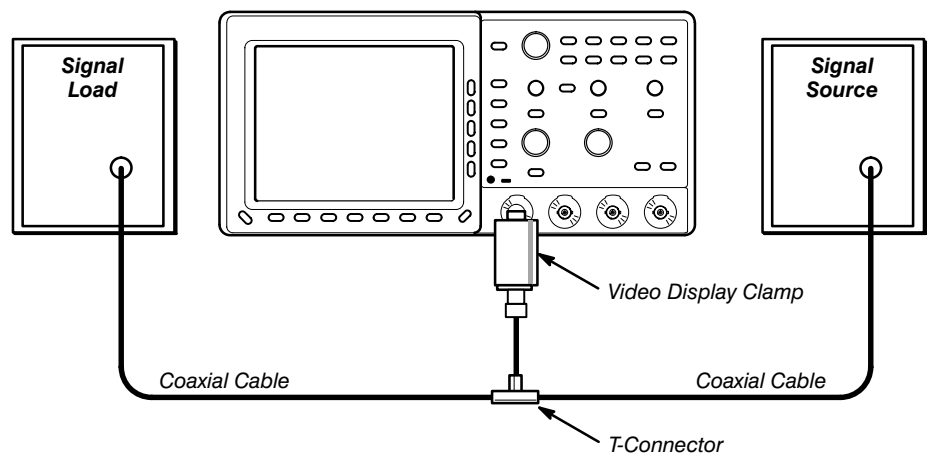

Figure 4: Monitoring a Video Signal with the Video Display Clamp
- Tap into a video signal line with a T-connector to monitor the signal without causing loading interference to the signal (see Figure 4).